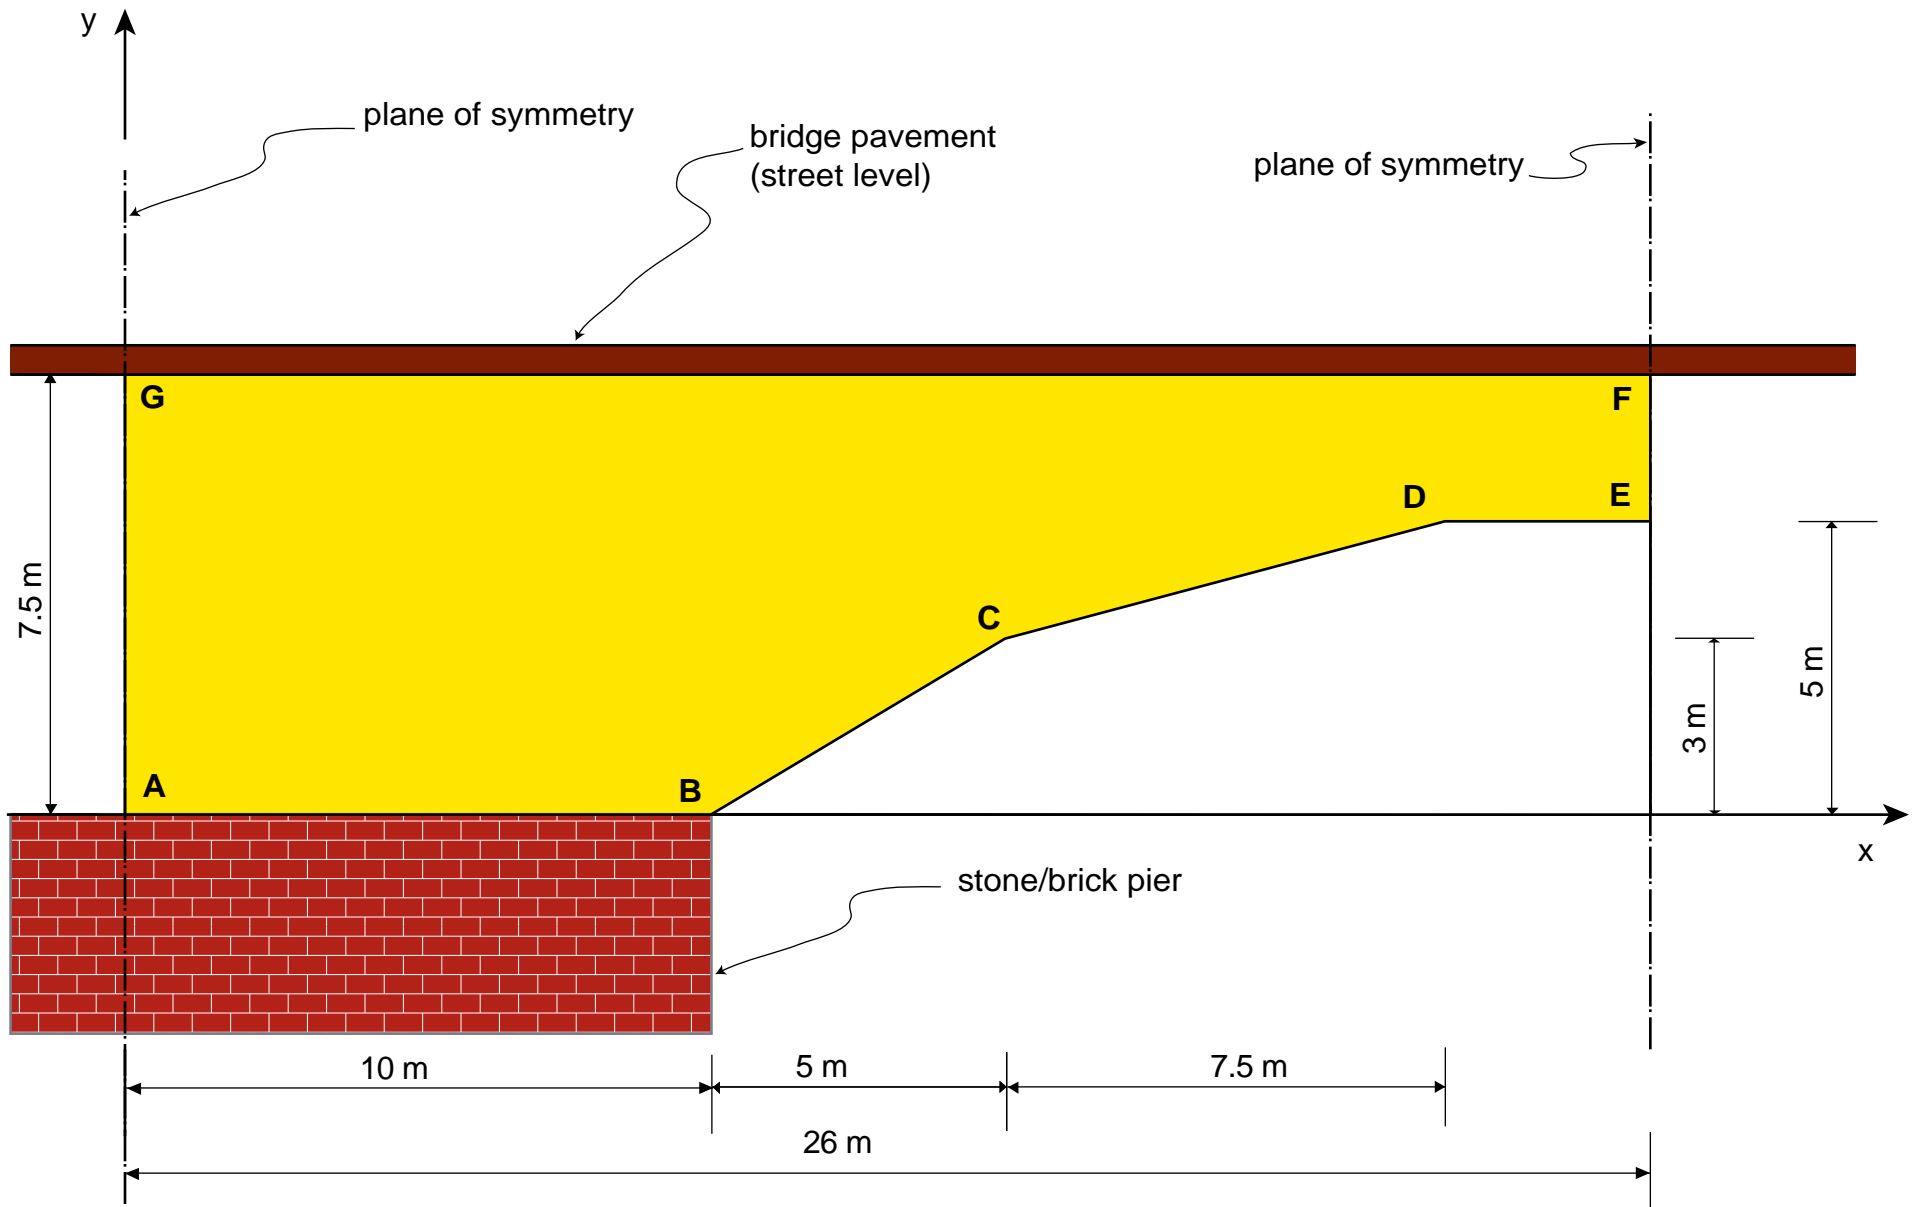

Figure 2. Design constraints
Figure 2 shows the spatial and mechanical constraints for each modular truss. The truss is made with straight bars of pine timber. The timber specifications are:
- 1) Select the truss geometry and enter the bar elements. Apply boundary conditions and material properties. Follow the geometrical, support, symmetry, and length requirements listed in Fig. 2. Only one half of the modular span needs to be modeled. See Fig.3 for an example of boundary conditions simulating structural symmetry.
- 5) For the elements in tension: compute $\sigma_{applied}$ due to the sum of the loads in (3) and (4) and verify that $\sigma_{applied} \leq \sigma_{allow.} = \frac{\sigma_{st}}{f.s.}$. Tabulate the results as shown in the Appendix.
- 6) For the elements in compression: compute $P_{applied}$ and $\sigma_{applied}$ due to the sum of the loads in (3) and (4) and verify that $\sigma_{applied} \leq \sigma_{allow.} = \frac{\sigma_{cr}}{f.s.}$. Do not consider buckling. Tabulate the results as shown in the Appendix.
- 7) To verify the truss stiffness, compute $D = v_F - v_G$, where v_F and v_G denote the total downward displacement at points F and G, respectively (see Fig. 2). Tabulate the results as shown in the Appendix. If $D < 52\text{mm}$ the stiffness of the truss is verified.
- 8) If the truss passes verification, record the weight of the truss (this is equal to the sum of the vertical reactions computed in (3).) If the truss does not pass verification, make the appropriate changes in step (1) and (2) and repeat the process. The current design iteration is not completed until results are verified.